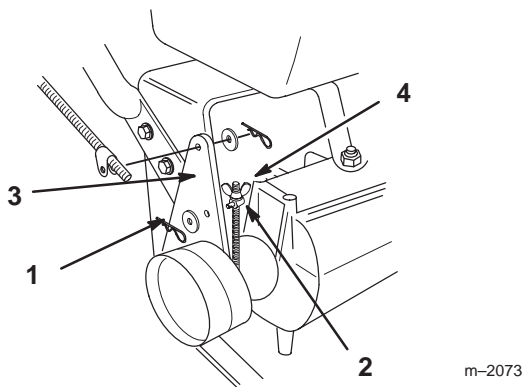

Figure 39
3. Remove the cotter pin and washer from the brake lever (Fig. 39).
4. Rotate the wing nut so the trunnion smoothly slides into the brake lever (Fig. 39).
5. Secure the trunnion to the brake lever with the washer and cotter pin (Fig. 39).